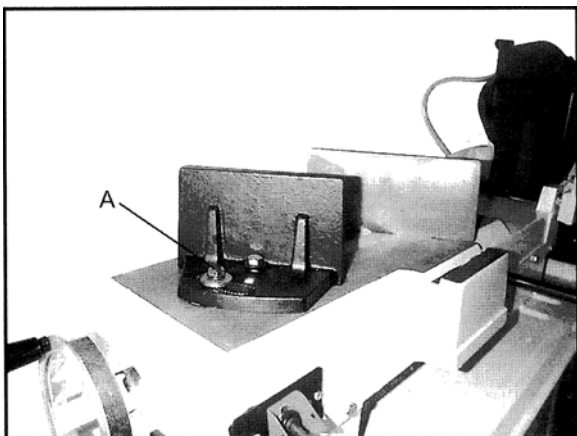

Figure 13
2. Position the vise and re-install as pictured in Figure 13. Pay particular attention to the bolt hole location.
4. Adjust the movable vise parallel to the fixed vise by loosening bolt (A, Figure 13), adjusting to parallel, and tightening bolt.